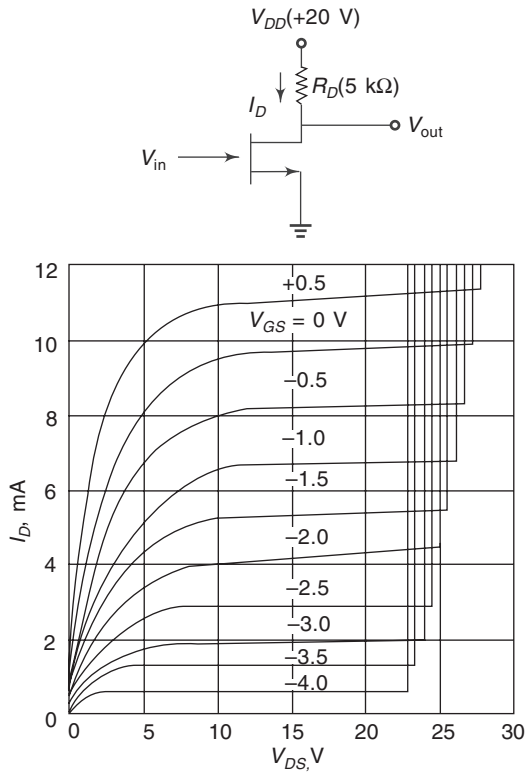

Fig. 7.45 Output Characteristics of an n-Channel JFET.
7.38 For the circuit given, determine the output voltage (V_{out}) for the input voltage (V_{in}) of (a) -5 V, (b) 0 V. The output characteristics of the JFET are given. (See Fig. 7.45)